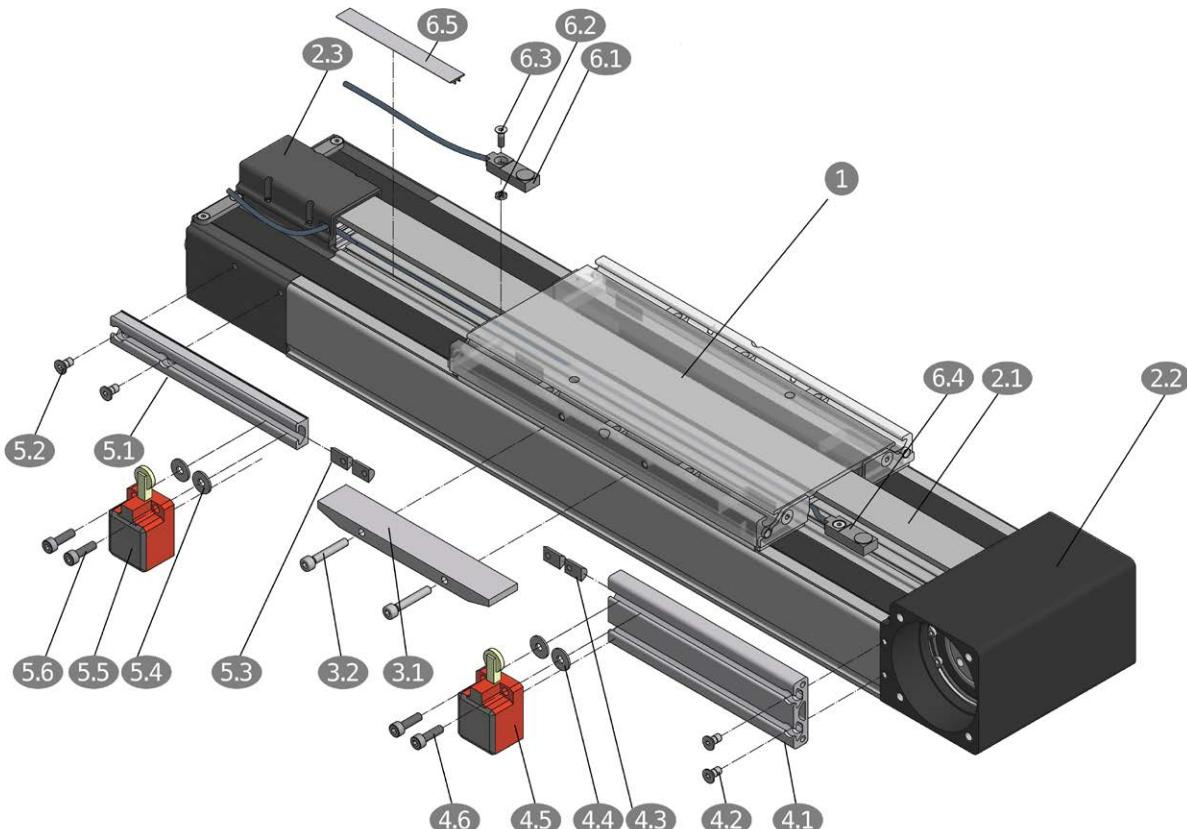

Figure 3.14 __ Mounting of limit switches on linear axis AXE110Z
For the mounting of the limit switches and actuating elements the following steps must be performed according to Figure 3.14. The table ①, the drive head ②.2 and the deflection head ②.3 of the linear axis are designed symmetrically for mounting on both sides.